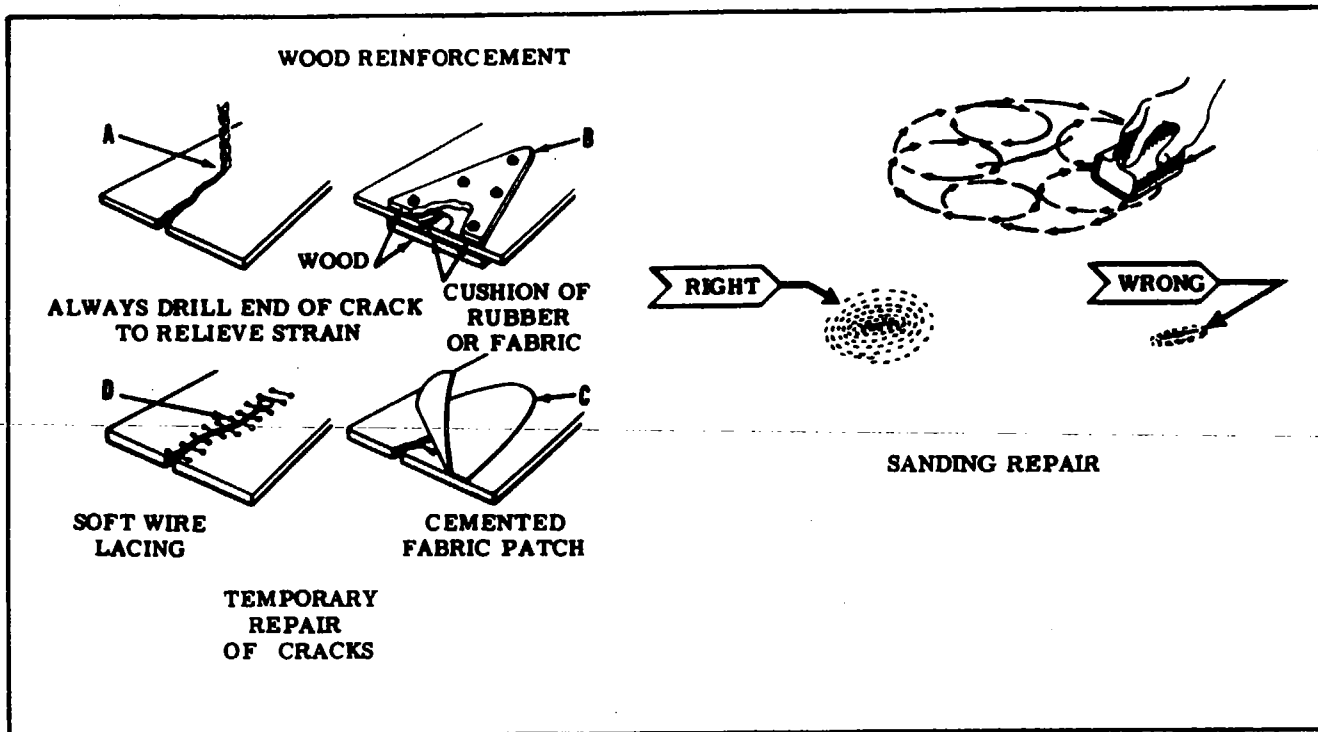

Figure 3-1. Repair of Windshield and Windows
**3-8. CRACKS. (Refer to figure 3-1.)**